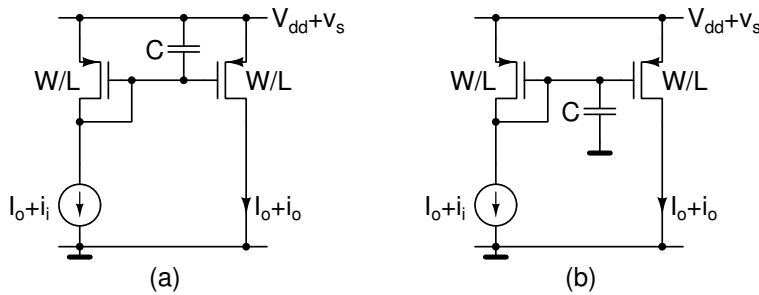

Figure 2.6: Problem 2.6.
2.6. Determine the small signal transfer functions $I_o(s)/I_i(s)$ and $I_o(s)/V_s(s)$ in Fig. 2.6(a) and Fig. 2.6(b). What do you infer from this? Model the transistors using their g_m .